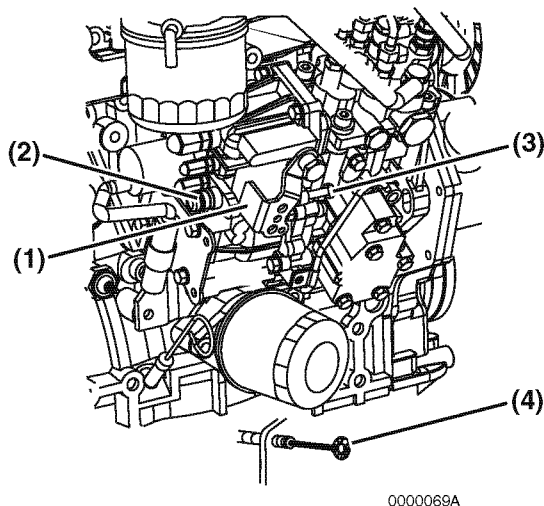

Figure 5-11
1. Check that the governor lever (**Figure 5-11, (1)**) makes uniform contact with the high idle (**Figure 5-11, (2)**) and low idle (**Figure 5-11, (3)**) speed limit screws when the engine speed control is in the high idle speed or low idle speed position.
3. In some engine speed control applications, loosen the throttle cable lock nut (**Figure 5-11, (3)**) and adjust the cable so the governor lever makes proper contact with the high / low idle speed limit screw.